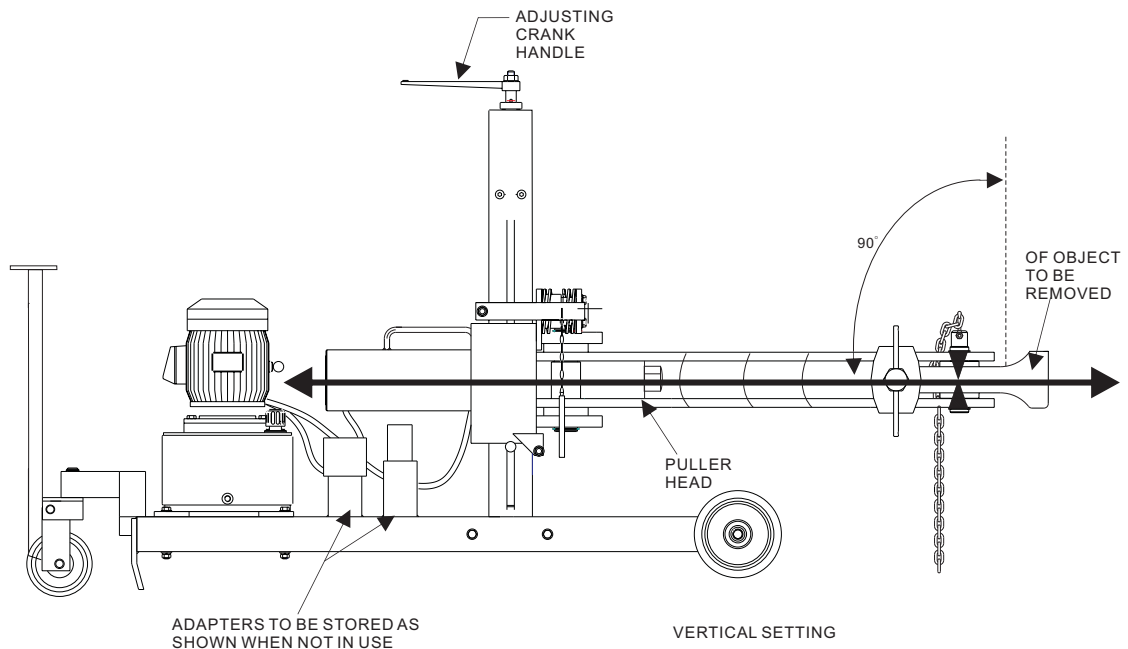

FIGURE 2
VERTICAL SET-UP : See Figure 2
1. Adjust vertical set-up by using the crank handle shown in Figure 2. the centerline of the object being pulled must be on the same centerline as the puller head. Note: Because of spring loading, you may have to turn the crank handle several times before the head starts moving.